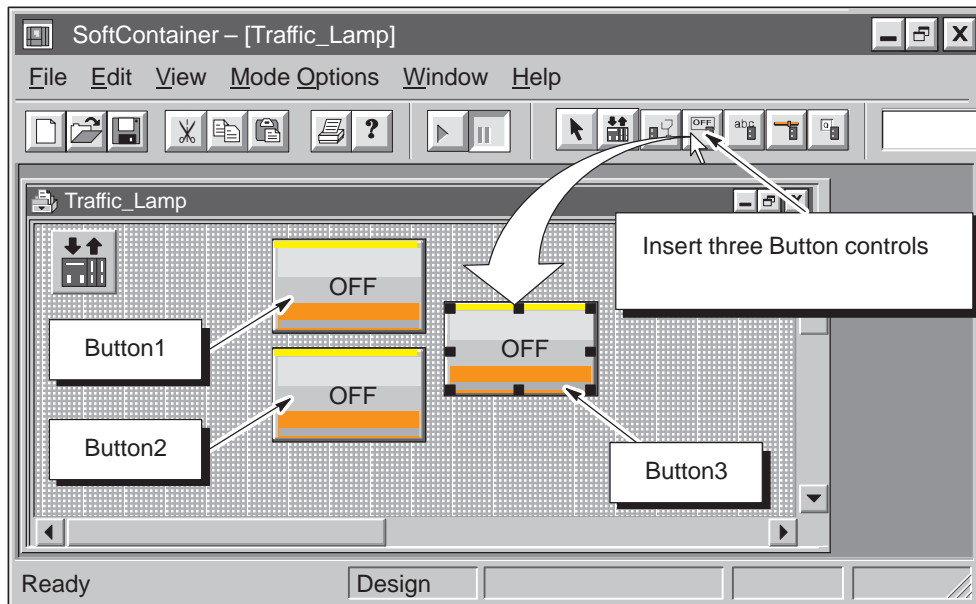

Figure 3-14 Inserting SIMATIC Button Controls
2. As shown in Figure 3-14, insert three Button controls onto the process form: